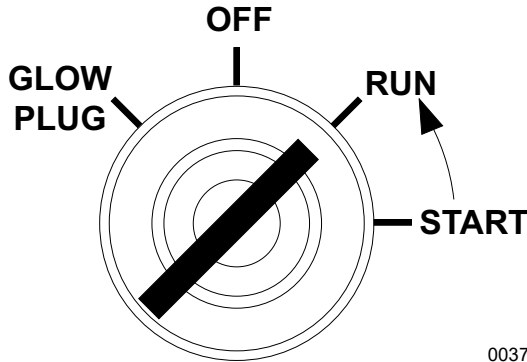

Figure 3-6. Release Key
- See Figure 3-6. Release the key, it will move to RUN.